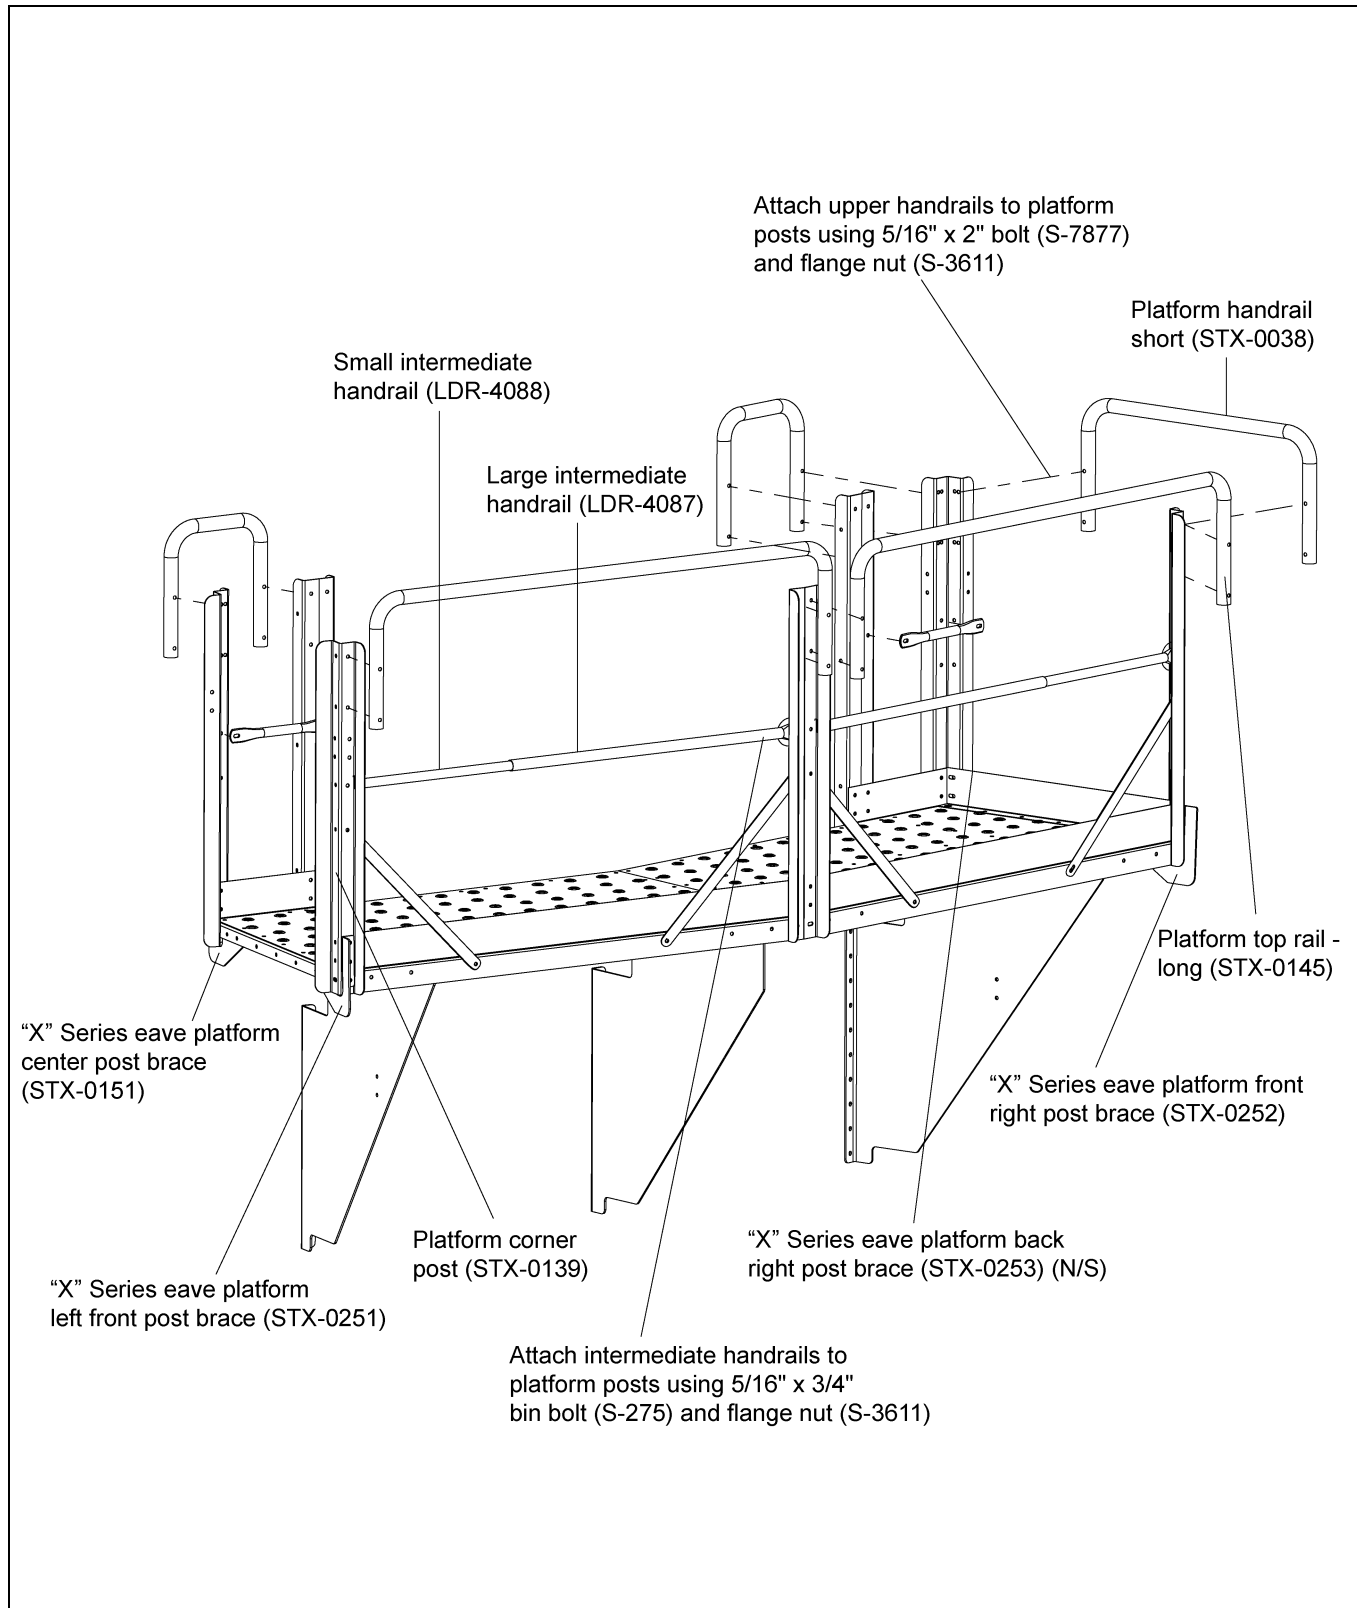

Figure 4P
3. **Figure 4P** shows the assembly of the platform handrails. These must also be attached using 5/16" hardware.